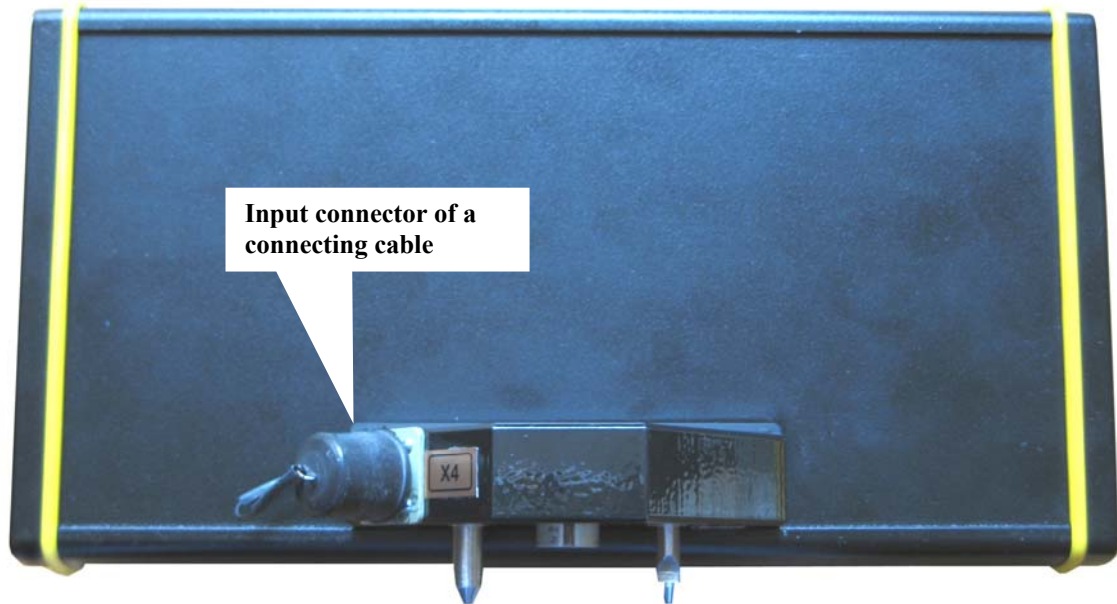

Figure 4.1. Input connector linking up BUOI with PC
1. Connect BUOI to an external PC using connecting PC cable (from the accessories) through Ethernet port. Input connector of a connecting cable on a case of BUOI is shown in figure 4.1.
1. Assemble SK «Око-2» (see item 3.1 of the present manual);
2. Connect BUOI to a notebook with a connecting cable of PC through Ethernet port. Input connector of a connecting cable on a case of BUOI is shown in figure 4.1;